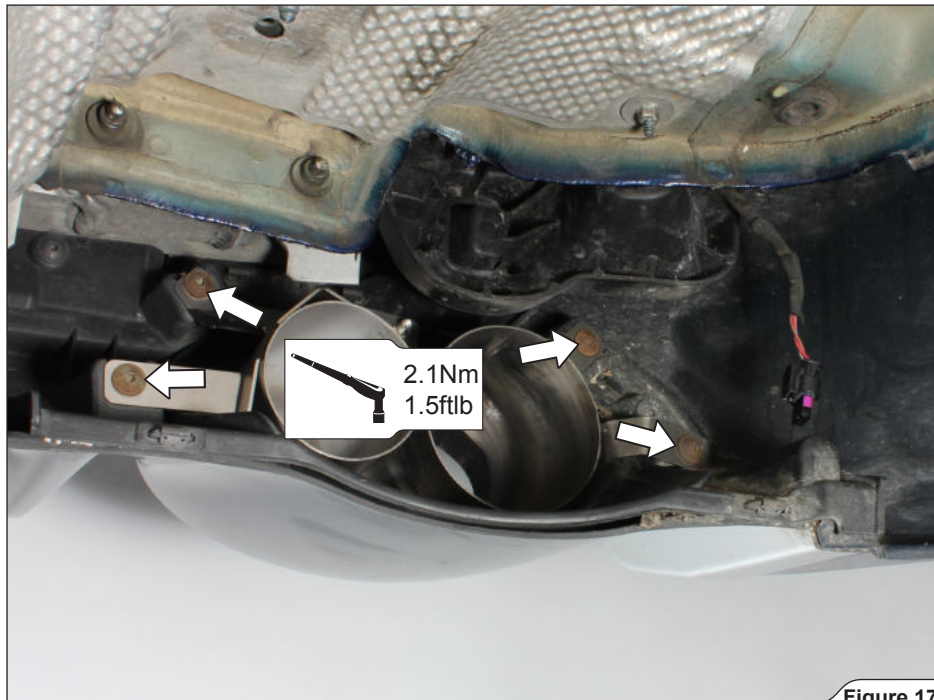

Figure 17
2. Attach the tail pipes onto the bumper, using stock bolts (Figure 17).